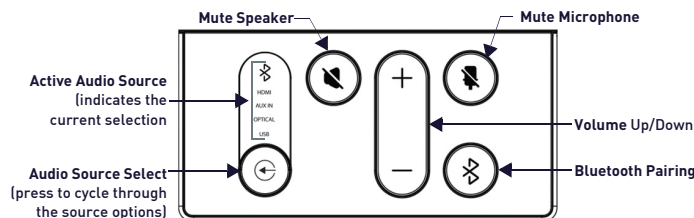

FIG. 9 ACV-5100 LEFT SIDE PANEL KEYPAD
All controls and LEDs are on the left side panel of the ACV-5100 (FIG. 9):
- Use Source Select button on the ACV-5100 (FIG. 9) to select **USB** (if necessary).
- Press and hold both the **Source Select** and **Bluetooth Pairing** buttons on the ACV-5100 (see FIG. 9). After 3-5 seconds the LEDs on the remote control should stop flashing to indicate the remote control has paired.
- Press the **Bluetooth Pairing** button on the Acendo Vibe or the remote control to initiate pairing (see FIG. 9). The Bluetooth button will flash on both the ACV-5100 and the remote control.
In order for the Acendo Vibe Configuration Tool to communicate with the ACV-5100, the unit must be in Setup Mode. To place the ACV-5100 in Setup Mode, press the **Audio Source Select** and **Mic Mute** buttons on the ACV-5100 simultaneously (see FIG. 9) for 3 seconds. All of the LEDs blink to indicate that the unit is in Setup Mode.